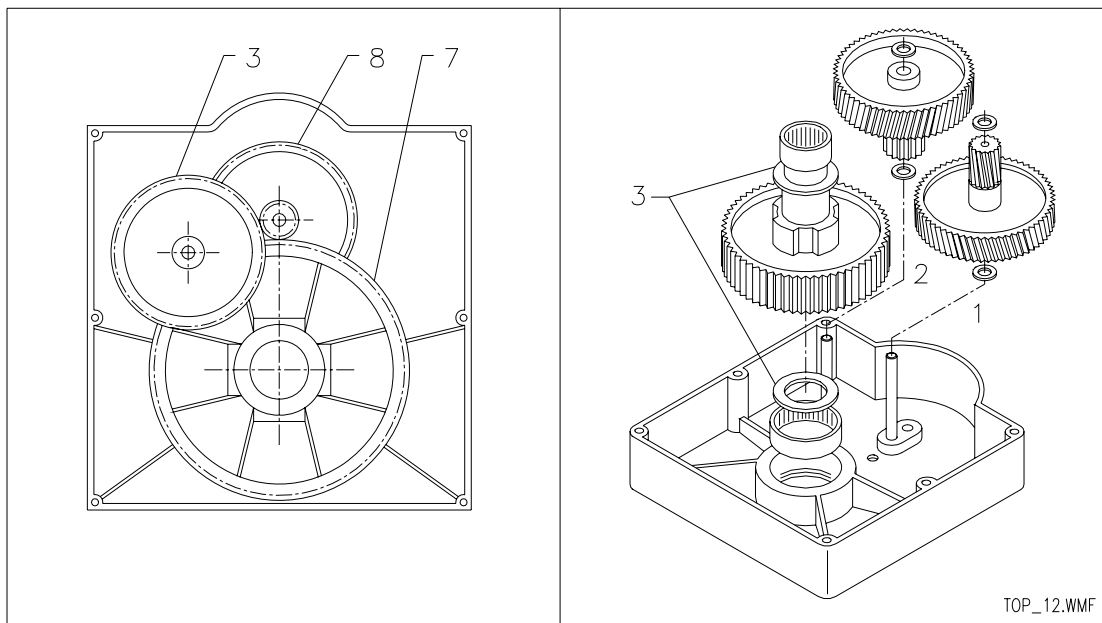

FIG. 12
- 1) Insert the shim washers in positions 1-2-3 (FIG. 12).
- 2) Insert the stiffened helical gear FIG. 12 Ref.8 Z=87, considering that the gear pinion must be turned upwards.
- 3) Insert the shaft with straight-cut gear on the hole, FIG. 12 Ref.7 Z=54.
- 4) Insert on the side shaft, the helical gear FIG. 12 Ref.3 Z=46, considering that the straight cut pinion must be turned downwards.